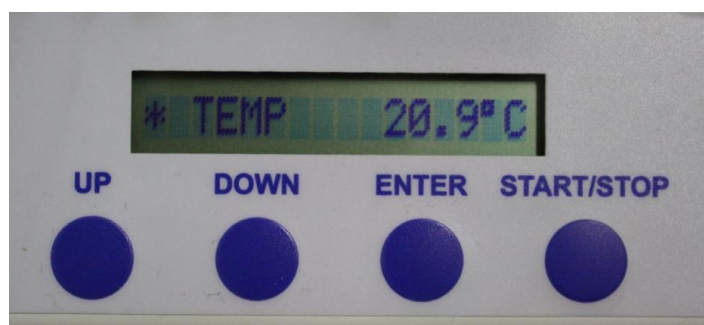

Figure 12. Front panel and display of the chiller. Temperature control is not active
The chiller has four input keys: UP, DOWN, ENTER and START/STOP. The front panel and display are shown in **Figure 12**. Note that the star icon on the far left indicates that temperature control is **not** active.
1. Press the UP or DOWN keys to change the set temperature to read 20.0 °C. Press Enter to set the temperature. The display will switch back to the current temperature, as in **Figure 12** – note that the star symbol on the far left hand side indicates that the temperature control is *not* yet enabled.